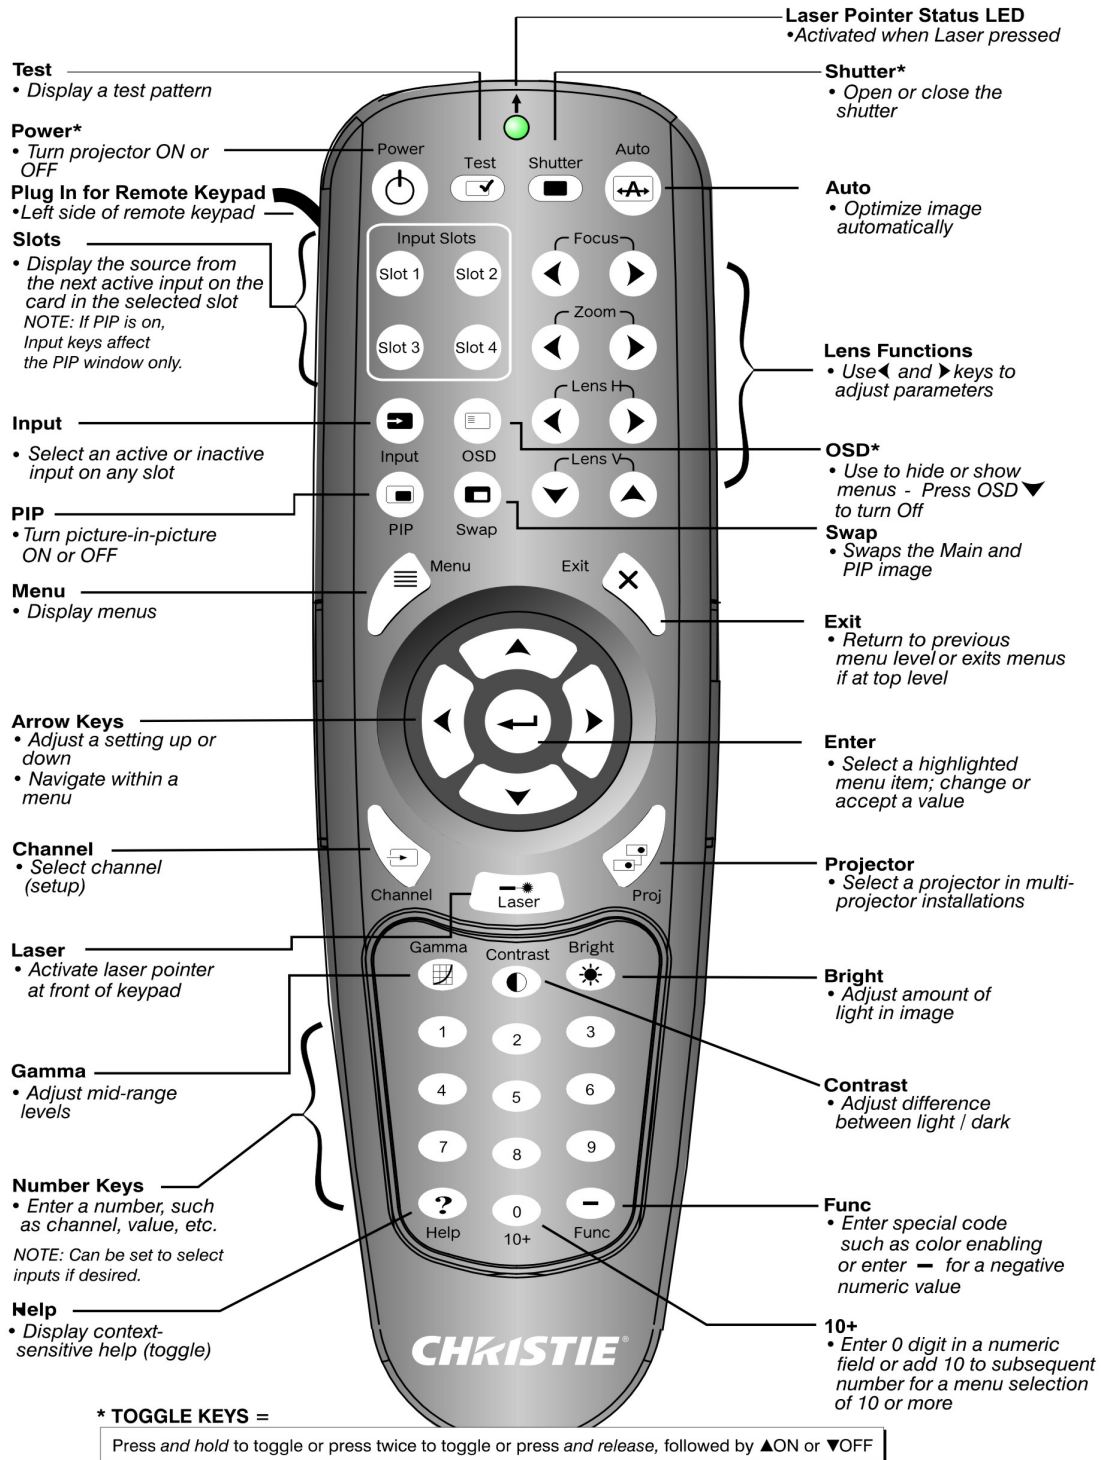

FIGURE 3-1 REMOTE KEYPAD
- **Remote Keypad** for wired or wireless control up to 25 feet (8m) away (includes cable for use as a wired remote). The remote keypad controls the projector by way of wireless communications from a battery-powered infrared (IR) transmitter. Use the remote keypad the same way you would use a remote keypad supplied with a TV or VCR. When pressing a function key, direct the keypad toward the projector's front or rear IR sensor. One of the two IR sensors on the projector will detect the signal and relay the commands for internal processing. A laser pointer is built into the remote keypad. See Figure 3-1.
- Press keys one-at-a-time; there are no simultaneous key combinations required. **NOTE:** Use POWER, SHUTTER, and OSD functions by doing one of the following: “press-and-hold” (2 seconds) or press twice quickly, followed by pressing either the UP ARROW KEY to switch on or the DOWN ARROW KEY to switch off once. See Figure 3-1.
Refer to Figure 3-1 for the description of those keys provided for the remote keypad.
Specific keypad commands are explained, see *Figure 3-1*: